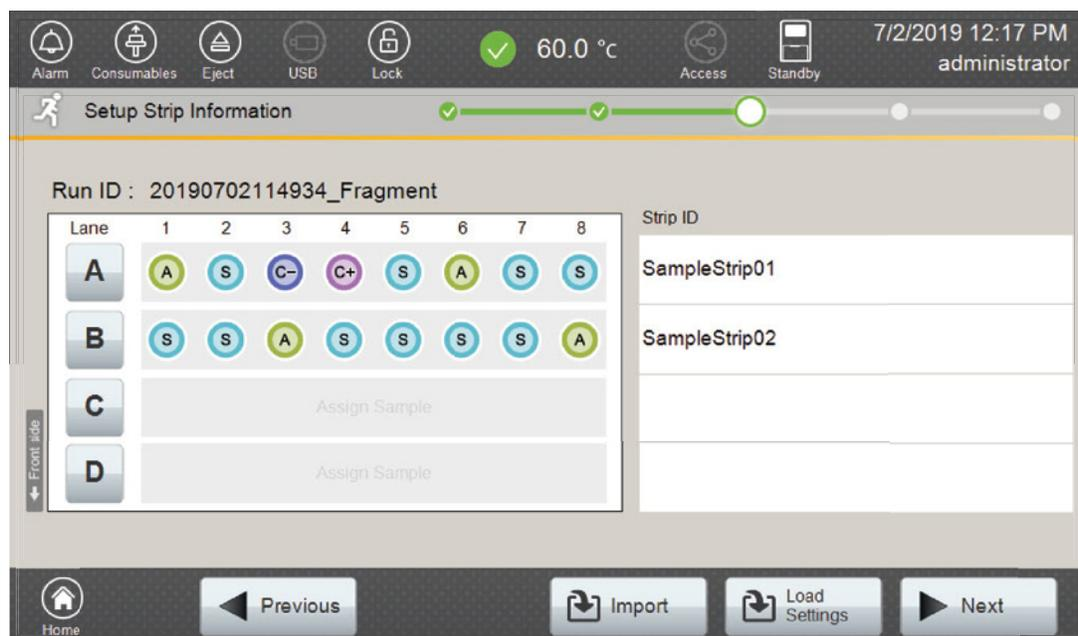

Figure 19. Completed 'Setup Strip Information' Screen.
13. After all the required lanes have been set up, select **Next** on the 'Setup Strip Information' screen to load the sample cartridge (Figure 19).